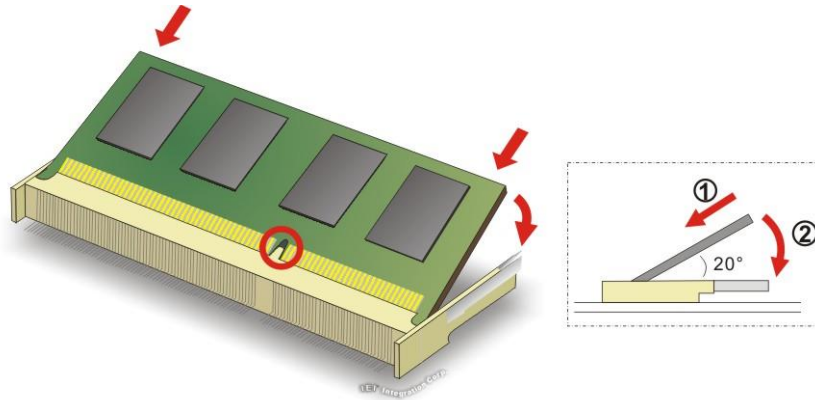

Figure 4-1: SO-DIMM Installation
To install an SO-DIMM, please follow the steps below and refer to **Figure 4-1**.
- Step 3:** **Insert the SO-DIMM**. Push the memory in at a 20° angle. (See **Figure 4-1**)
- Step 4:** **Seat the SO-DIMM**. Gently push downwards and the arms clip into place. (See **Figure 4-1**)